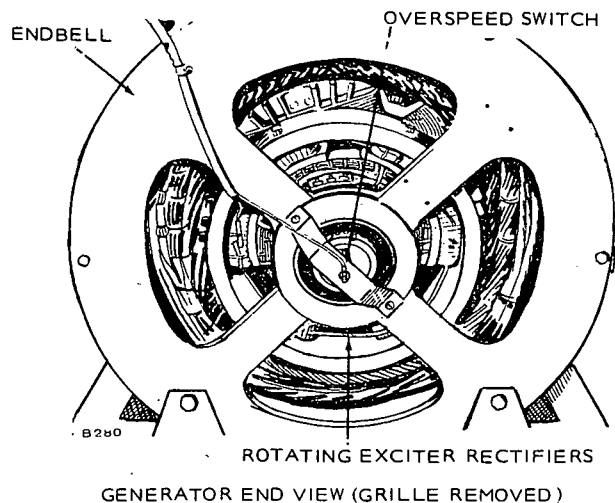

FIGURE 3. OVERSPEED SWITCH
- b. Overspeed (engine speed reaches 2100 rpm). See Figure 3.